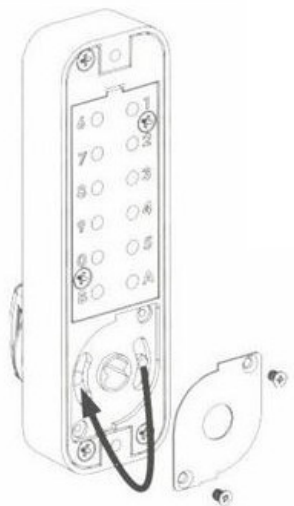

Fig. 3
- Drill holes as per template. (See Fig.3.)